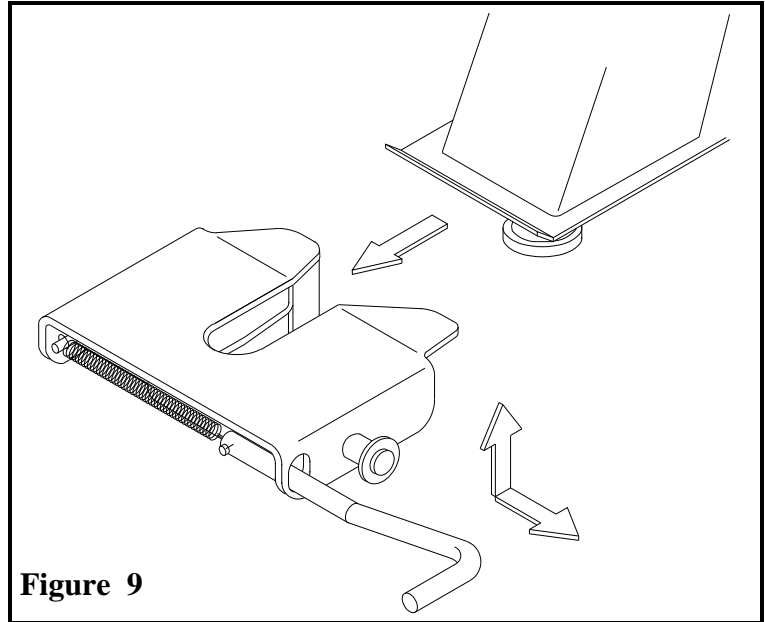

Figure 9
- 5) Back the truck so that the King Pin enters the center of the horseshoe slot of the 5th Wheel Plate (1) **(Figure 9)**.